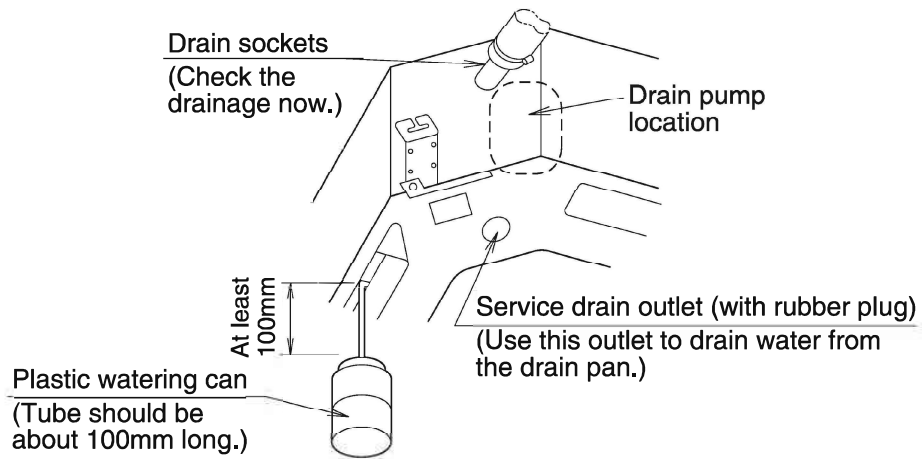
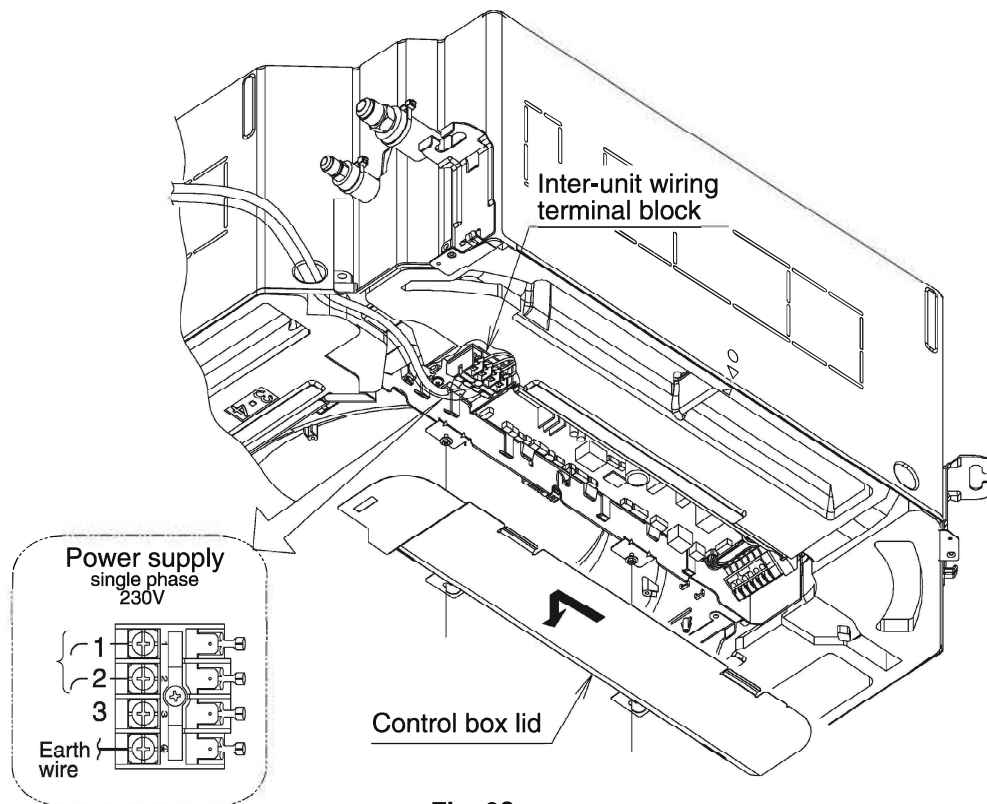

Fig. 22
Fig. 23
- Add approximately 1L of water slowly from the air outlet and check drainage flow. (Refer to Fig.23)
- After confirming drainage (Fig. 22, Fig. 23), turn off the power and remove the power supply.